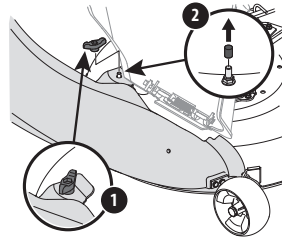

Figure 21
3. Secure the boot to the deck using a wing knob (720-04122) from hardware pack 689-02364. See Figure 21.
NOTE: If present, remove the protective cap off of the mounting stud on the mowing deck as shown in the upper inset of Figure 21.